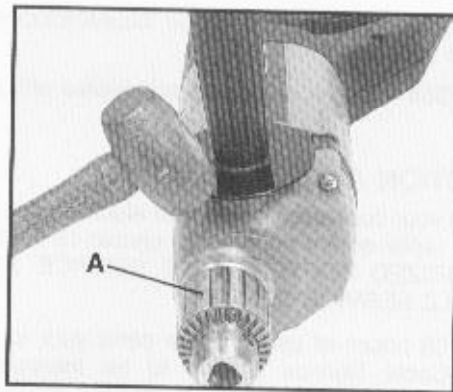

Fig. 4
Models 7563 and 7564 – Tap side of chuck body (A) Fig. 4, with a brass hammer to loosen chuck from spindle. Slide chuck off spindle.